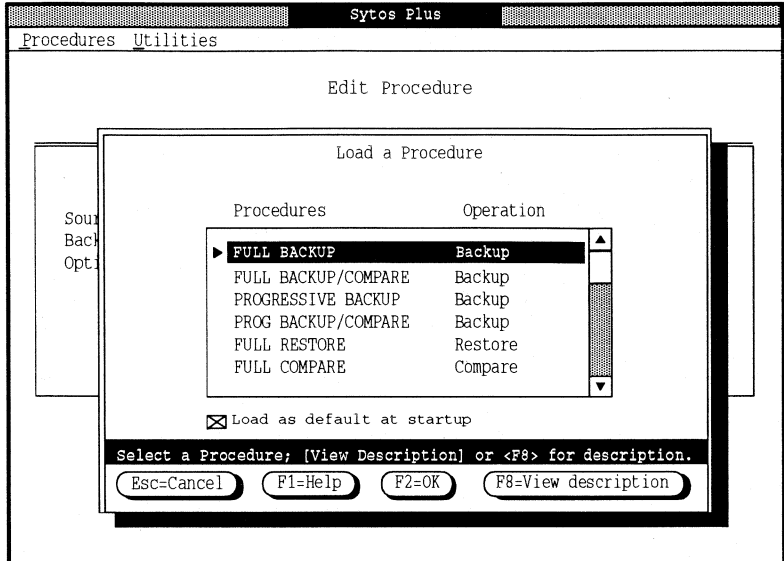

Figure 15-21 Procedure to Load
**Load** allows you to load an existing Procedure. Figure 15-21 shows an example of the Load a Procedure window.